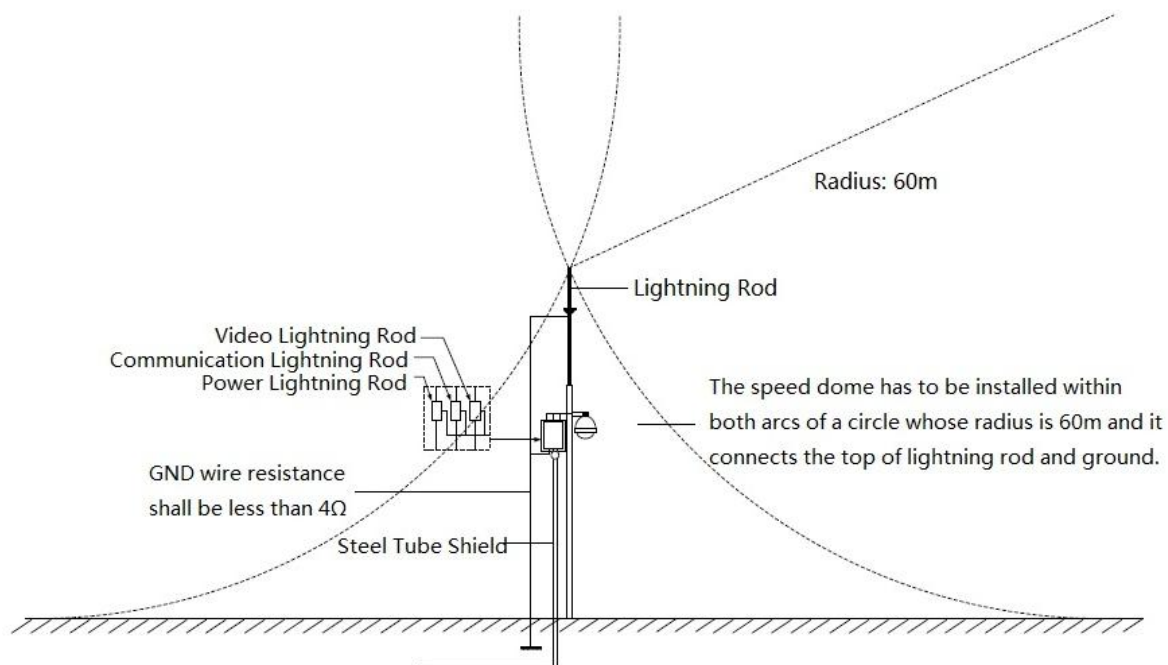

Figure 7-1
- System shall adopt equal-potential wiring. The earth device shall meet anti-jamming and at the same time conforms to your local electrical safety code. The earth device shall not short circuit to N (neutral) line of high voltage power grid or mixed with other wires. When connect the system to the earth alone, the earth resistance shall not be more than 4Ω and earth cable cross-sectional area shall be no less than 25 mm^2 . See Figure 7-1